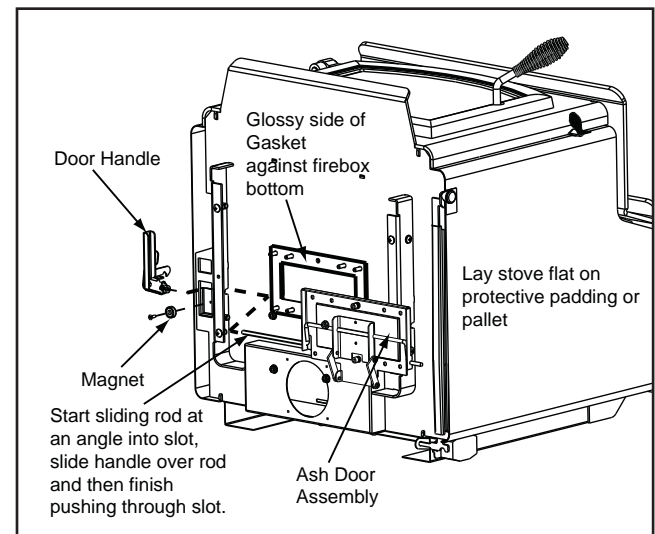

Figure 21.2
It is important the gasket is not put on upside down as it could compromise its sealing capabilities. Figure 21.2.
Slide the ash door over the 8 screws protruding from the bottom of the stove. Secure with nuts and washers provided. **Figure 21.2.**
6. Install magnet using a Phillips head screwdriver. This magnet will hold the door handle in an open position which in turn holds the ash door open so ashes can be brushed into the ash drawer. **Figure 21.2.**
1. Follow steps 1 through 6 on **page 21**. See also **Figures 21.2 and 21.3**.